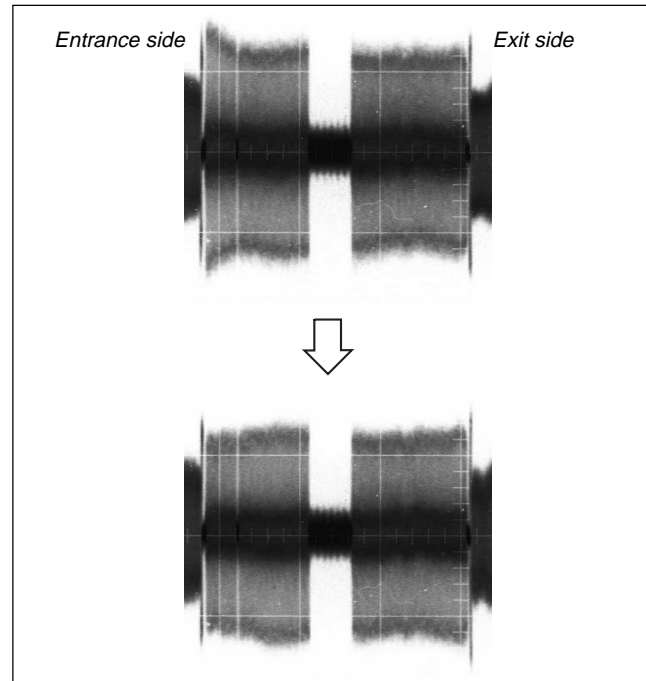

Fig. 6-2-11
- 2) Adjust the TG2 and TG4 guides until the RF envelope waveform becomes flat. (Refer to Fig. 6-2-11.)
- 2) Adjust the TG2 so that the RF envelope has the larger amplitude at the entrance side first, then adjust TG2 guide for flat amplitude. (Refer to Fig. 6-2-11.)
(Refer to Fig. 6-2-11, and 6-2-12.)
If the height of the TG1 is adjusted, check the entrance side of the tape path waveform (refer to Fig. 6-2-11, and 6-2-12). If there is any change in the entrance side of the tape path waveform, re-adjust the entrance side (TG2). (Refer to “3-4. TG2/TG4 Guide Fine Adjustment.”)